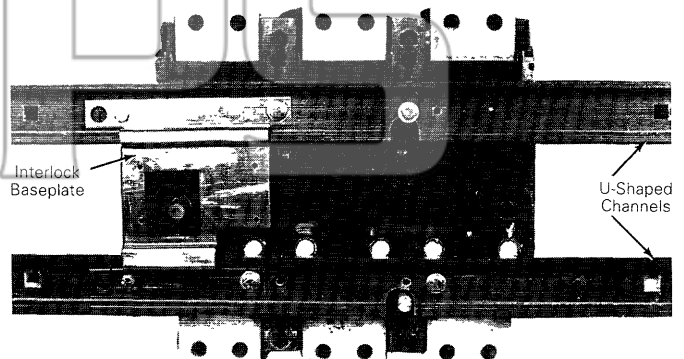

Figure 5. U-shaped channels and interlock baseplate installed on the rear of the breaker.
4. Mount the two U-shaped channels to the rear of the breaker with two $\frac{1}{4}$ -20 hex-head screws, flat washers, and lock washers each, as shown in Figure 5. Do not tighten the screws at this point. Position the cutout in the lower channel over the trip plunger.
5. Install the baseplate over the channels, using the left channel mounting screws and two additional $\frac{1}{4}$ -20 hex-head screws, nuts, flat and lock washers, as shown in Figure 5. Tighten all screws to 20 in-lb.